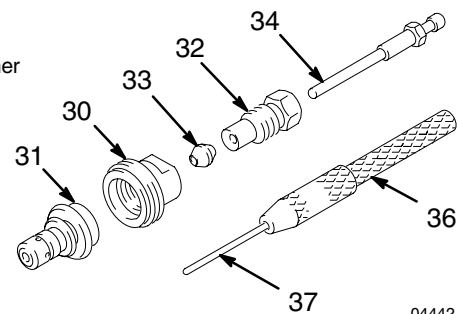

Fig. 4
NOTE: This kit includes the parts shown in Fig. 4, except the pin vise (36), which holds the cleaning pin (37), and the nozzle retainer (30), which is part of the gun. The wrenches mentioned in the following instructions are provided with the gun.